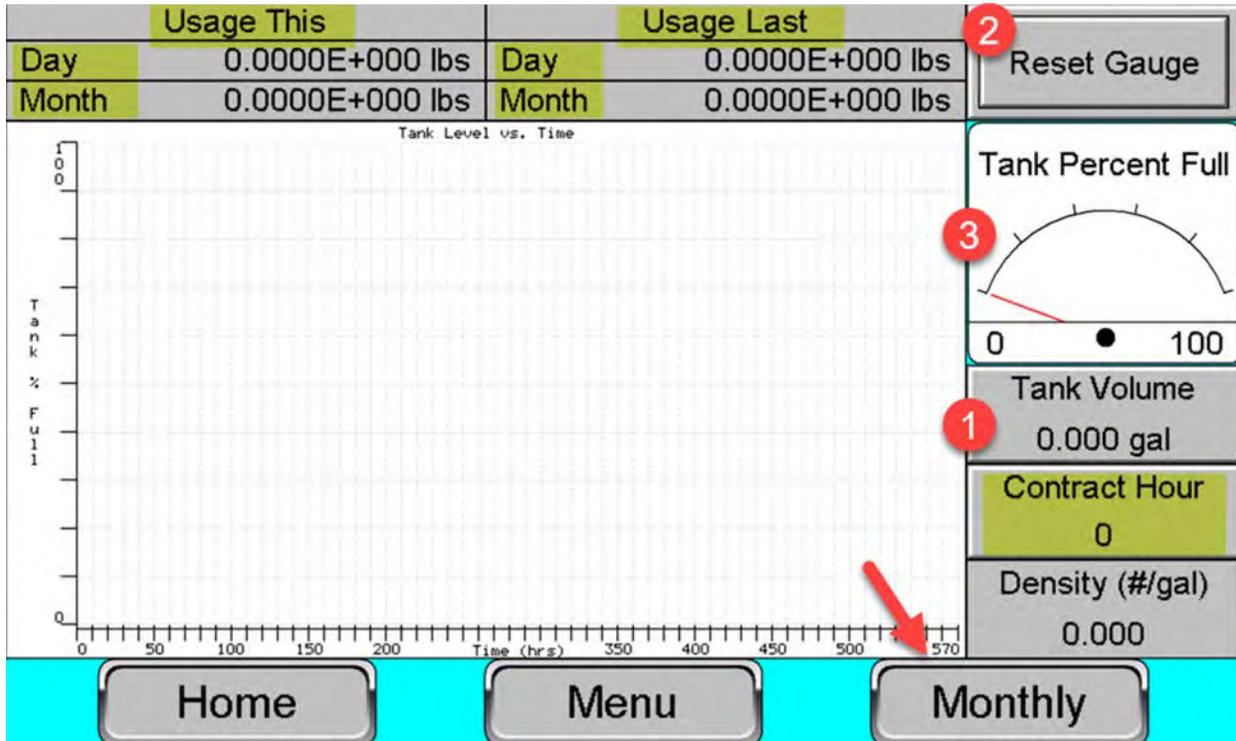

Figure 13: Usage Screen
On the home screen, press the odorant tank to navigate to the odorant usage screen (See Figure 2). The usage screen shown in Figure 13 helps track odorant usage.
The **Monthly** button switches the user screen to the screen shown in Figure 13.
3. The odorant float gauge outputs a level signal to the GPL Odorizer, or the tank level has been manually entered on the "Usage Screen" (Figure 13).